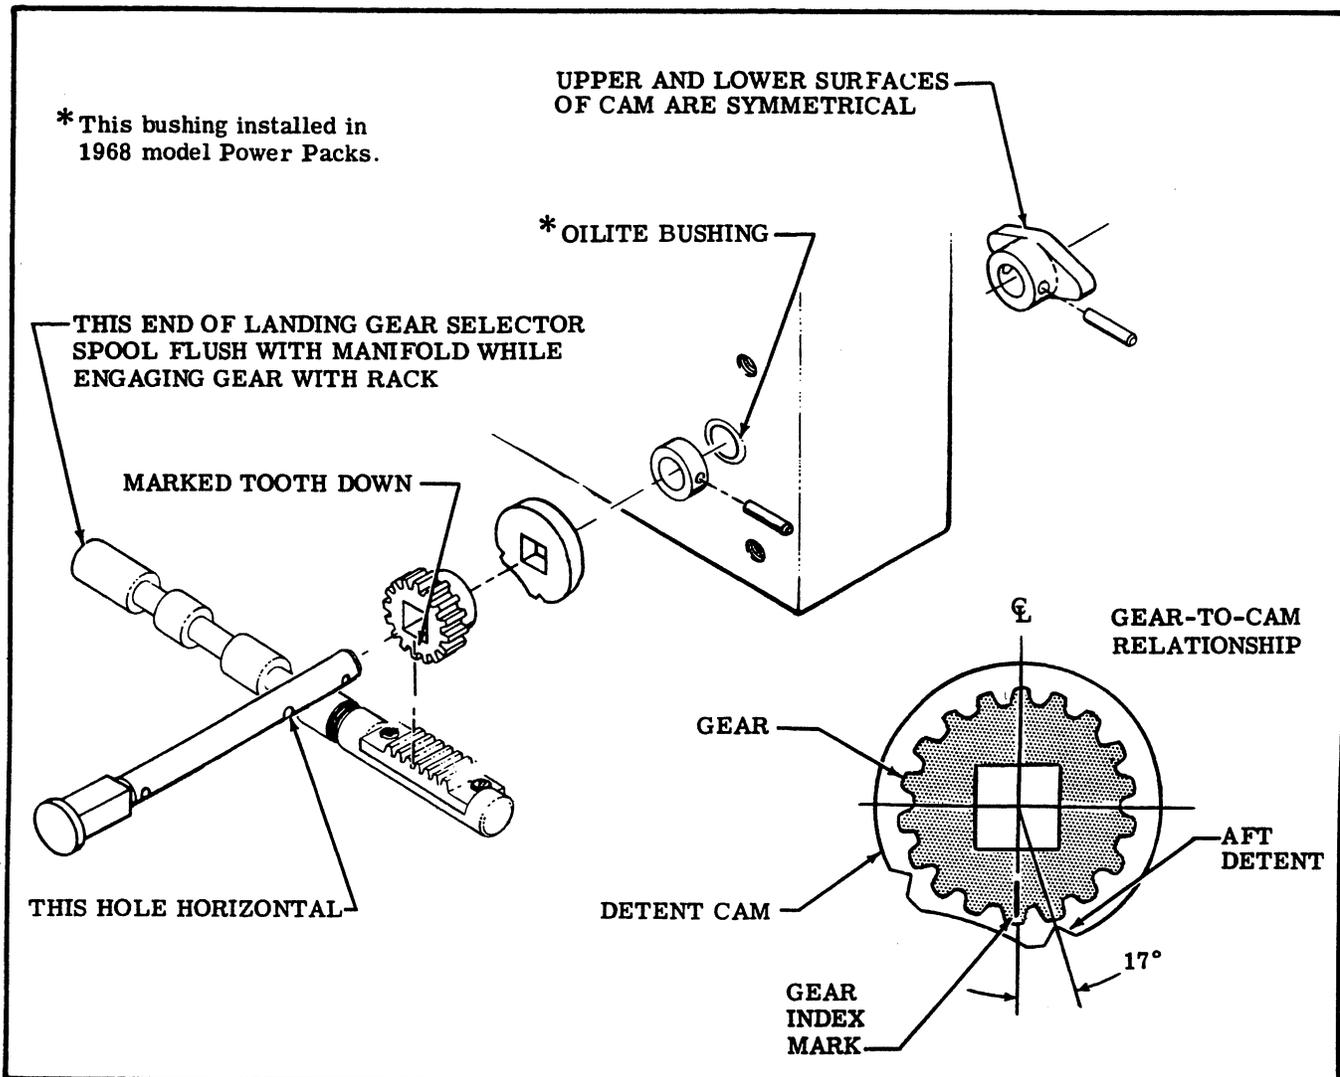

Figure 5-34. Timing of Handle Shaft and Selector Spool
- a. If the landing gear handle shaft or gear was removed, the parts must be indexed and assembled as shown in figure 5-34.
When installing manifold, time the landing gear handle shaft assembly to rack on selector spool as shown in figure 5-34. Refer to the following steps if binding occurs.